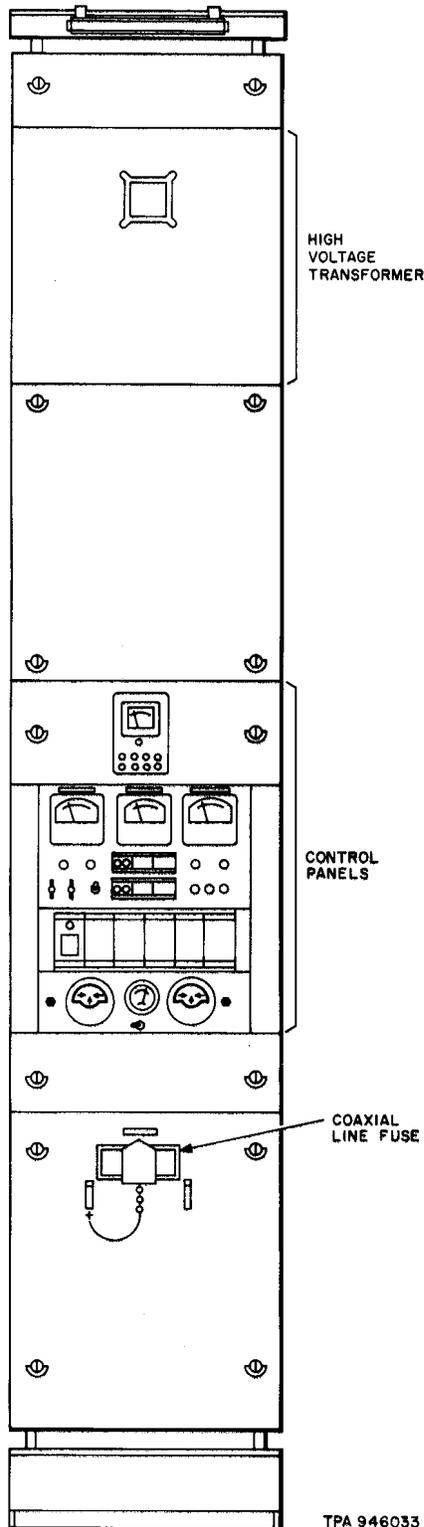

Fig. 9—PWR CONT Bay
1.17 The plant contains PWR CONT bays that are connected to the L3 coaxial lines. Each regular motor-alternator or inverter will normally power two PWR CONT bays. The required line current for the transmit and receive lines of the PWR CONT bay should be specified on cards or tape and posted directly above each of the two associated ammeters on the bay. The PWR CONT bay is equipped with manual controls that allow the line currents to be raised or lowered for performing tests and maintenance work. Refer to Fig. 9 for an illustration of the PWR CONT bay